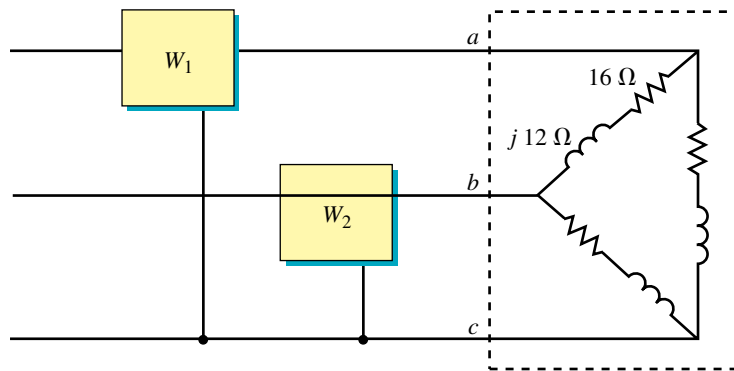

FIGURE 23-55
52. For the balanced load of Figure 23-55, $V_{ab} = 208$ V $\angle 0^\circ$.